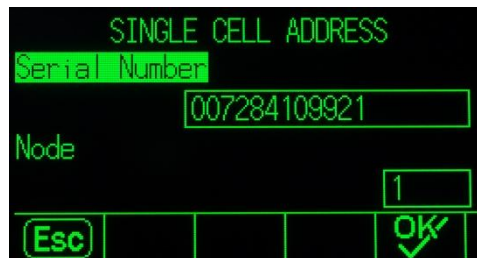

Figure 3-9: Single Cell Address Discovery Display
3. After the first load cell is detected, that cell's serial number and current node address are displayed as shown in Figure 3-9. If no cell is found the display will indicate Search Failed.